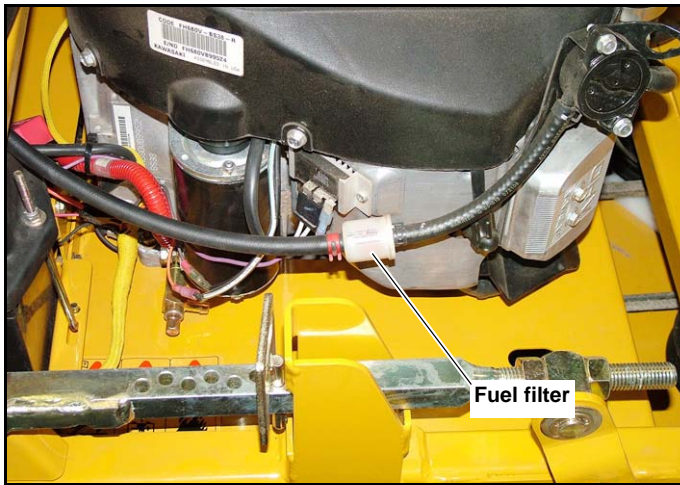

Fig. 4-5
**IMPORTANT:** Do not overfill the fuel tanks. The fuel tank should be filled no higher than to the top of the sight glass. The fuel filter is installed in the fuel line between fuel tank and engine fuel pump. Replace filter annually or after every 500 hours of operation, whichever occurs first. Fig. 4-5